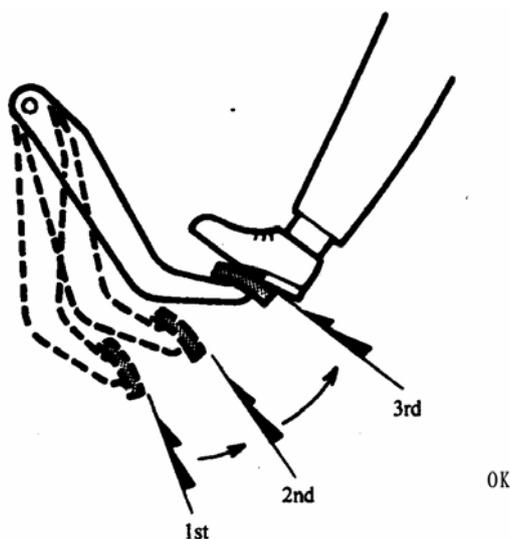

FIG.16-78
- (1) Start engine.
- (2) Stop engine after running for 1 or 2 minutes.
- (3) Depress brake pedal several with the same load as in ordinary braking and observe pedal travel. If pedal goes down deep the first time but its travel decreases as it is depressed the second and more times, air tightness is obtained (FIG.16-78)